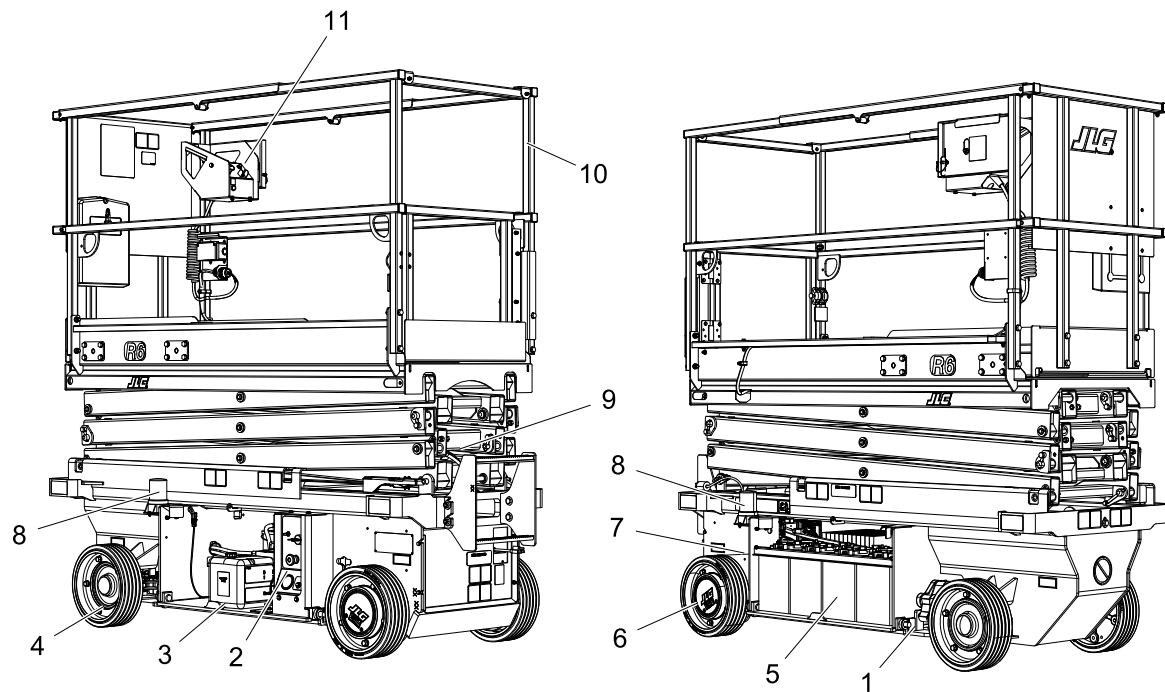

Figure 2-1. R6 - Daily Walk-Around Inspection (Side Covers Removed)
Begin the "Walk-Around Inspection" at item 1, see Figure 2-1. and Figure 2-2. Continue checking each item in sequence for the conditions listed in the following checklist.